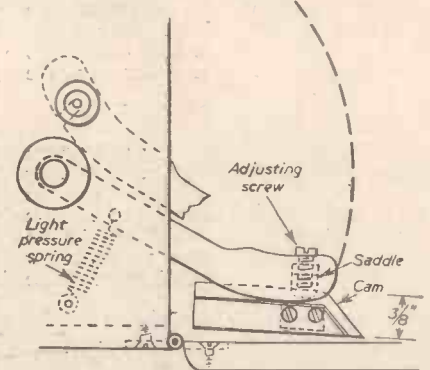

Fig. 13.—Range-finder actuating arm and cam.
When filing the cut-away portion of the peg which accepts the housing and mirror allowance must be made for the thickness of the housing to allow the reflecting surface of the mirror to assume a line across the pivotal centre of the peg. Pressure is applied to the top cone of the peg by means of a piece of hard flat brass spring in which a hole is made, allowing a small portion of the cone to pass through. The position of the bush is as low down on the body as possible (see Fig. 13), but not so low as to allow the fingers to obstruct it when focusing. This gives a base of about 2 1/2in., which is considerably longer than most of this type and therefore should be capable of greater accuracy.
(E) The Planet Cage and Projectors (see Fig. 13)
Fig. 13.—Projector case for Mars and Jupiter. Each projector is doubled to overcome dimming as the light impinges on the cage struts. The paired projectors are aligned to produce a single image.